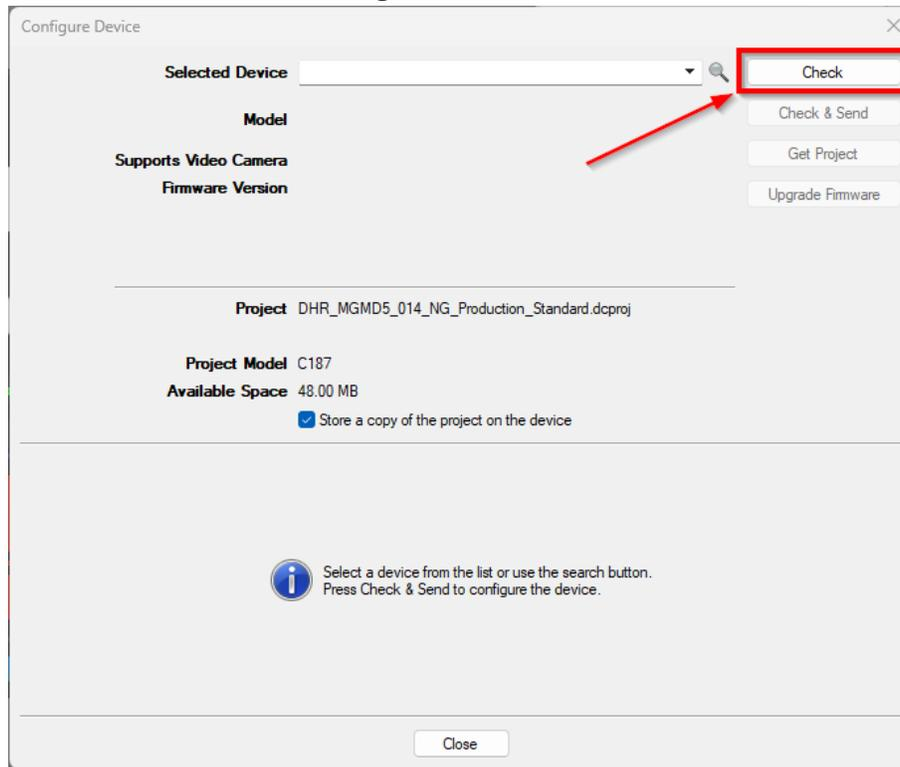

Figure 8: Display Creator – check display.
7. Press “Check” as shown in Figure 8, this will take a few minutes to complete.